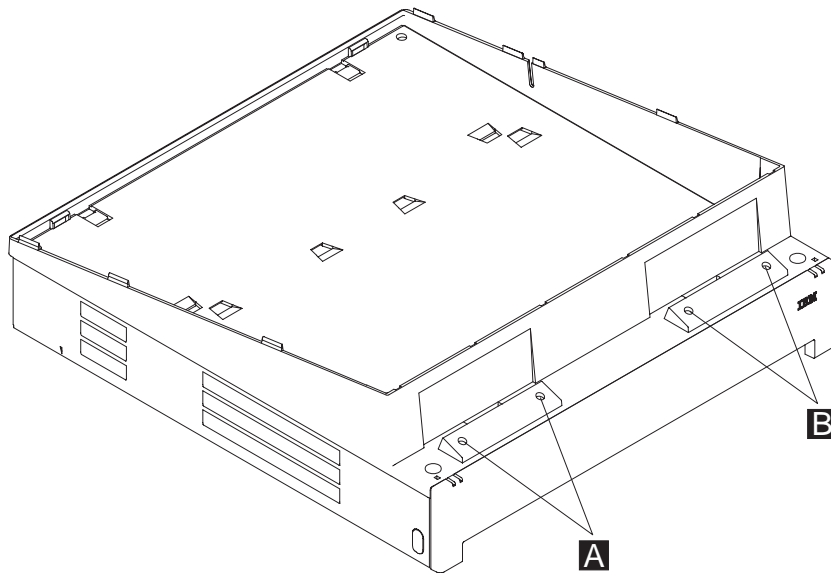

Figure 57. Attachment points for the display post
9. Attach the display post to the system unit or cash drawer at **A** or **B** in Figure 57 on page 64, using two plastic thumbscrews. The base is not symmetrical and will fit only one way.